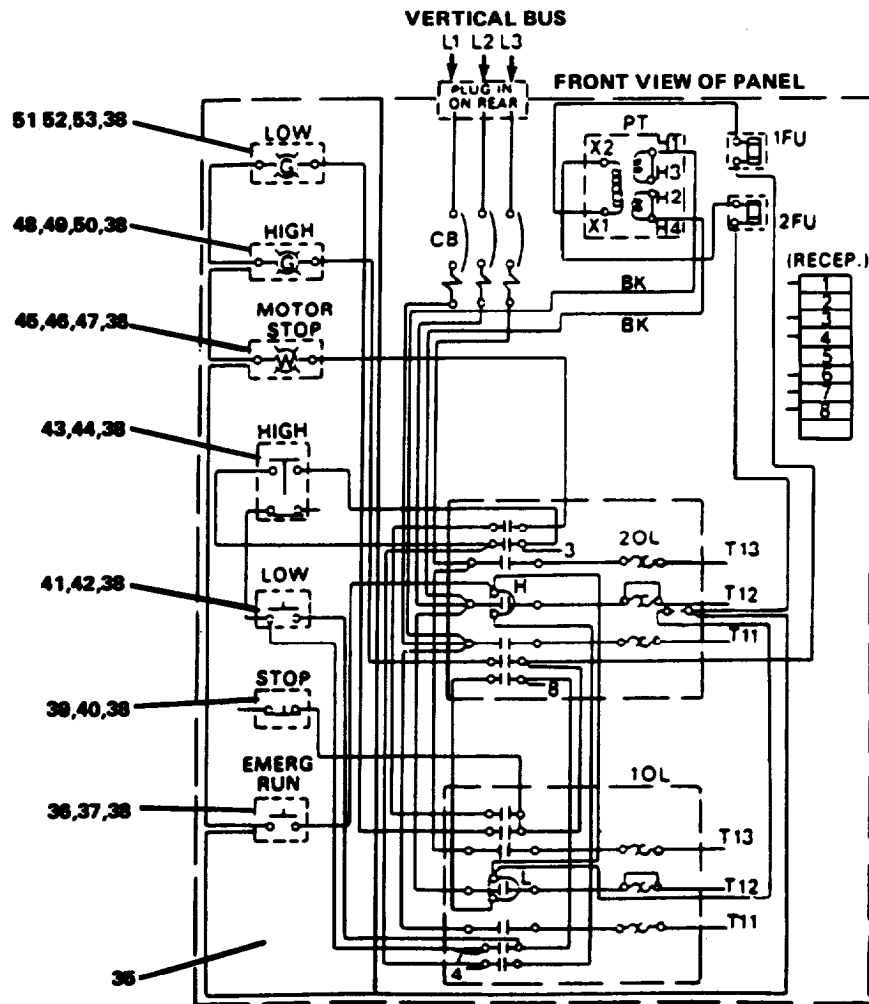

FIGURE 2-201. Motor Controller. Engine Room Supply Fan. Sheet 3 of 3.
(2) Remove self-locking screw (2) and detach switch cover.
(3) Loosen circuit breaker mounting screws.
(4) Separate circuit breaker (1) from connector assembly (3).
(5) Lift circuit breaker out of motor controller.
k. Push switches/indicator lights. FIGURE 2-201 (Sheet 3 of 3)
(1) Position motor controller door (35) on a clean flat surface.
(2) Remove two screws from protective cover over each push switch and